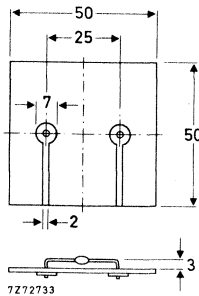

Fig. 2 Mounted on a printed-circuit board.
2. Thermal resistance from junction to ambient; device mounted on an 1,5 mm thick epoxy-glass printed-circuit board; Cu-thickness $> 40\text{ }\mu\text{m}$; Fig. 2